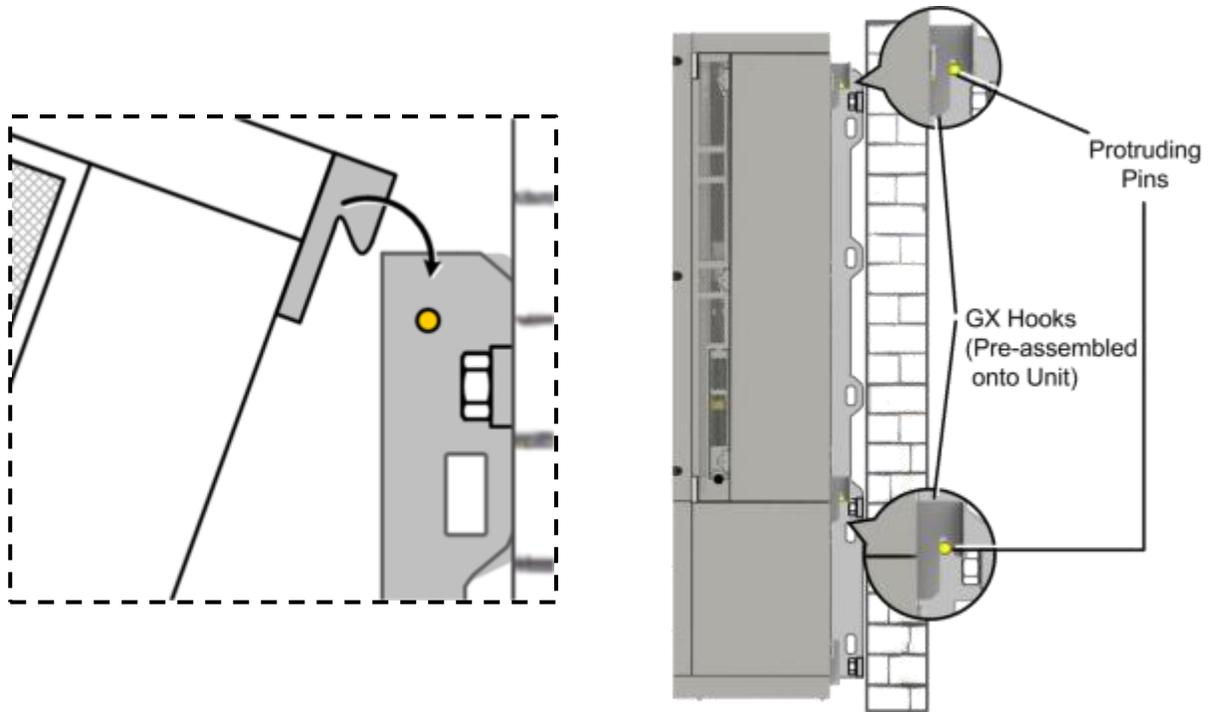

Figure 3-7. Mounting Procedure and Zoom-in of Hung Unit
4. Connectors facing down, carefully fit and hang the GX unit on the Pins (see Figure 3-7) protruding from the top, and middle-bottom parts of the mounting bracket.